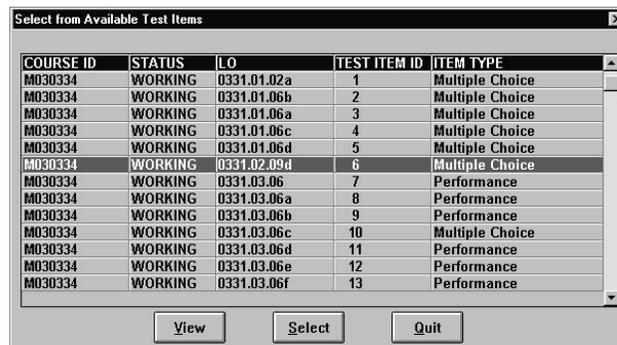

Figure 6-71. Select From Available Test Items
3. Click on **Continue**. A message appears to advise you to stand by while the system is loading test items. Then the Select From Available Test Items selection list box (Figure 6-71) opens.